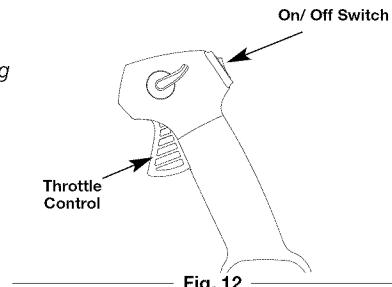

Fig. 12
NOTE: There is no need to turn the unit on. The On/Off Control is in the ON (I) position at all times (Fig. 12).
2. Press and hold the On/Off switch in the OFF (O) position until the unit comes to a complete stop (Fig. 12).
- NOTE:** There is no need to turn the unit on. The On/Off Control is in the ON (I) position at all times (Fig. 12).